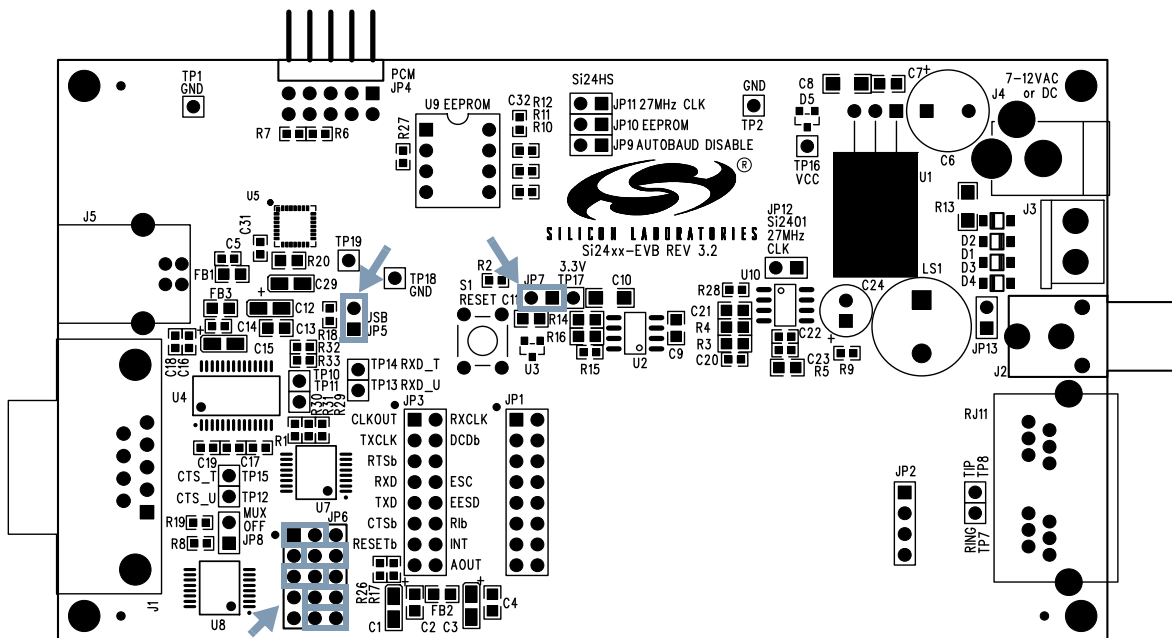

Figure 4. Standard Factory Jumper Settings—USB Interface (Outlined in Gray) (FS Option)
1. Set jumpers according to Figure 3 or Figure 4.
Check all jumper settings on the Si2493/57/34/15/04-EVB before applying power. The standard factory jumper settings for the FT package are shown in Figure 1; the FS package is shown in Figure 2. These settings configure the Si2493/57/34/15/04-EVB for RS-232 serial operation with autobaud. Any standard terminal program configured to communicate through a PC COM port can be used to communicate with the Si2493/57/34/15/04-EVB. The standard factory jumper settings for USB operation with the FT package are shown in Figure 3; the FS package is shown in Figure 4. The only difference between RS-232 and USB jumper settings is that JP5 must be installed to enable USB.